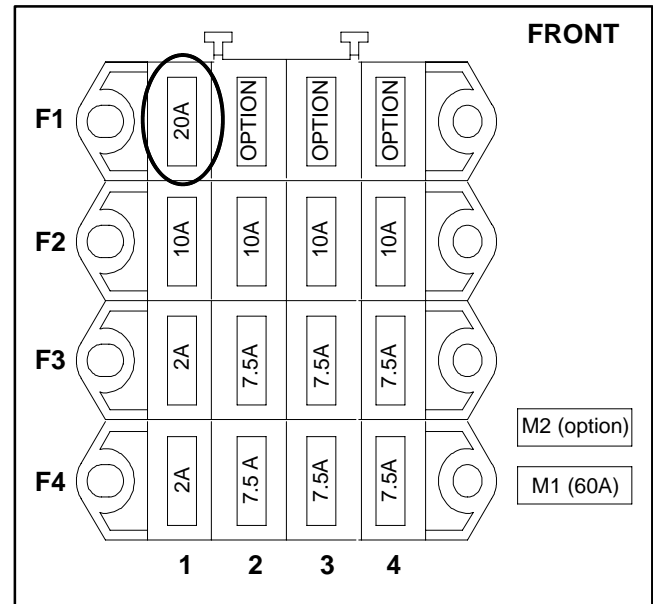

Figure 43
3. Remove 20A fuse (F1-1) (Fig. 43) from fuse block to prevent the engine from cranking.